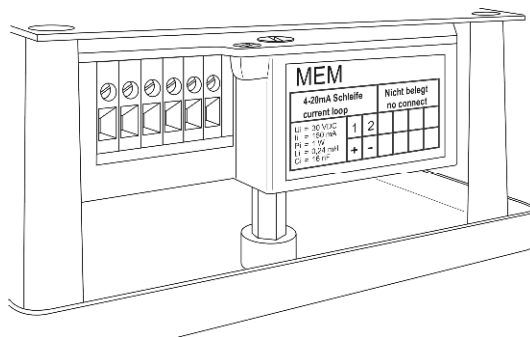

Fig 4.5 Terminals (current output)
- Install the cables with a loop in front of the cable glands so that moisture does not get inside the display unit (refer to Fig. 4.5).